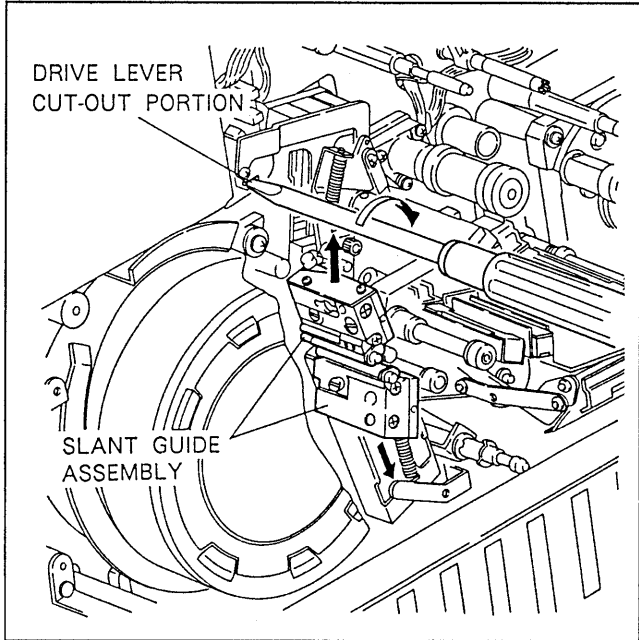

Fig. 6-2-9. Slant Guide Position Check
18. Close the slant guide assembly by inserting the flat blade screwdriver into the cut-out portion of the drive lever as shown in Fig. 6-2-9.